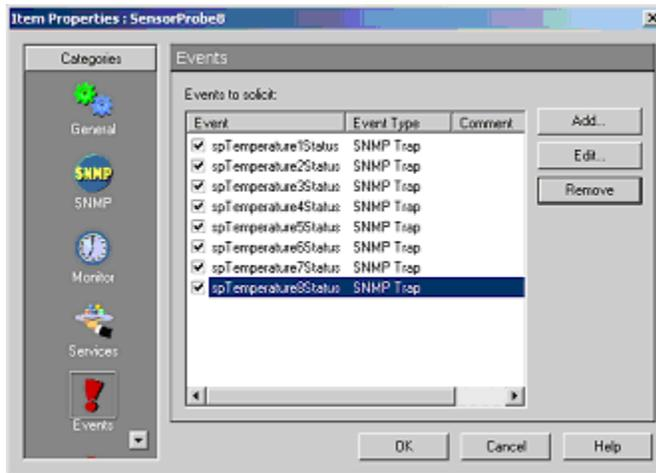

Figure 11 Trap events assigned to the sensorProbe
3.7 Repeat setup 2.3 to 2.6 to add all spTemperature2Status to spTemperature8Status as show in Figure 11.